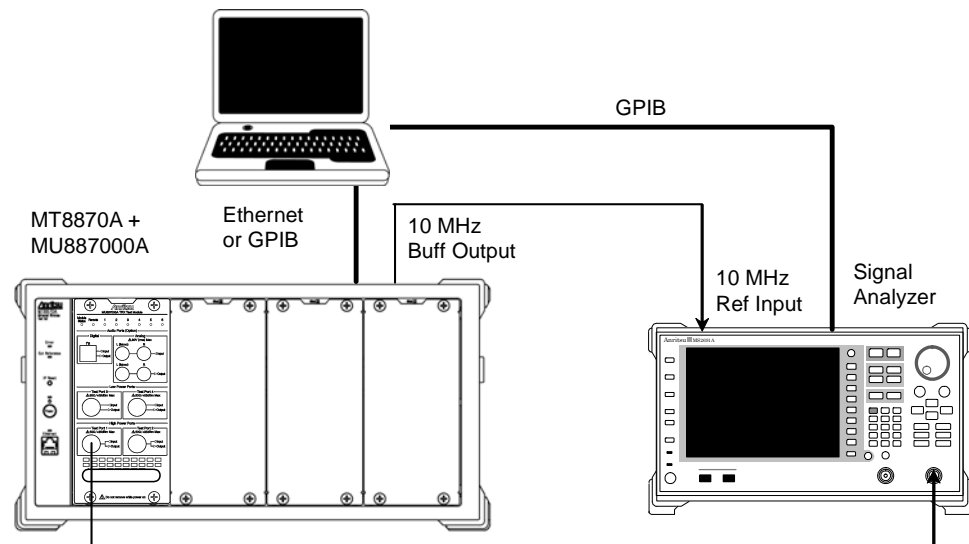

Figure 7.3.3-1 SG Spurious Measurement Setup
1. To test Port1, set-up the instruments as shown in Figure 7.3.3-1.
1. Connect the signal analyzer to Port3 as shown in Figure 7.3.3-1.